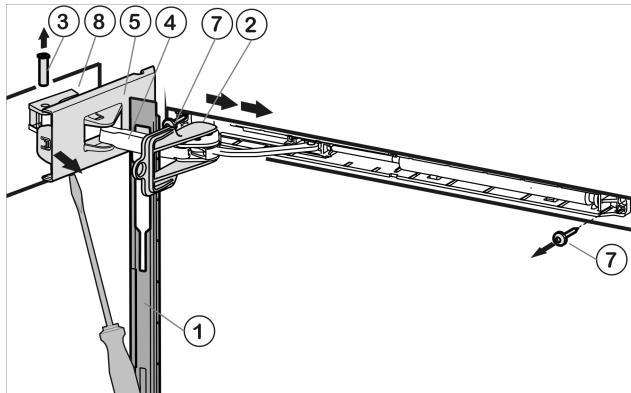

Fig. 5
- Push panel forward over the damper bracket Fig. 5 (4) in the direction of the appliance.
- Engage locking device Fig. 5 (2) into place inside oblong hole.
- Unscrew cover Fig. 5 (5) that is on the hinge side until the first notch using a screwdriver.
- Push bolt Fig. 5 (3) out from below.
- Press damper bracket Fig. 5 (4) in the direction of the door.
- Completely loosen cover Fig. 5 (5) that is on the hinge side and remove.
- Remove panel Fig. 5 (1).
- Unscrew soft stop unit (2 x Torx® 15) Fig. 5 (7).
- Unscrew bearing part Fig. 5 (8), turn it 180° and move it to the opposite side. Make preliminary holes (optional) or use a cordless screwdriver.